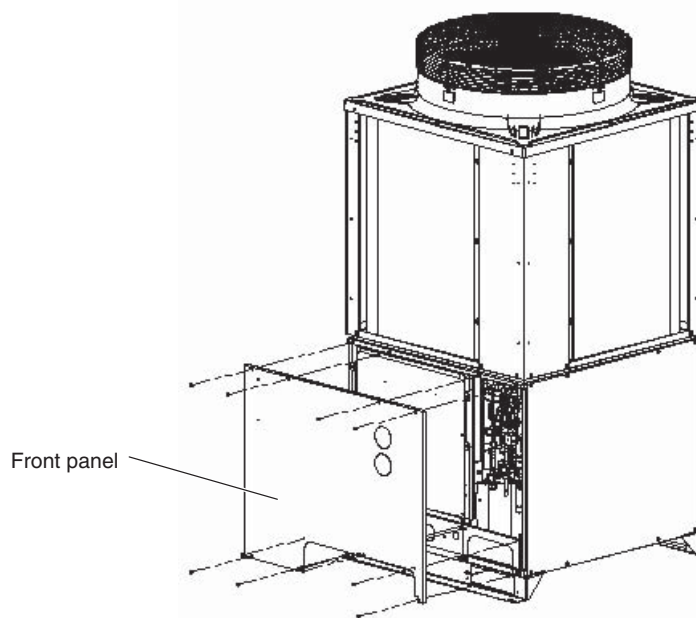

Fig. 1
(1) Front panel removal (Fig. 1)